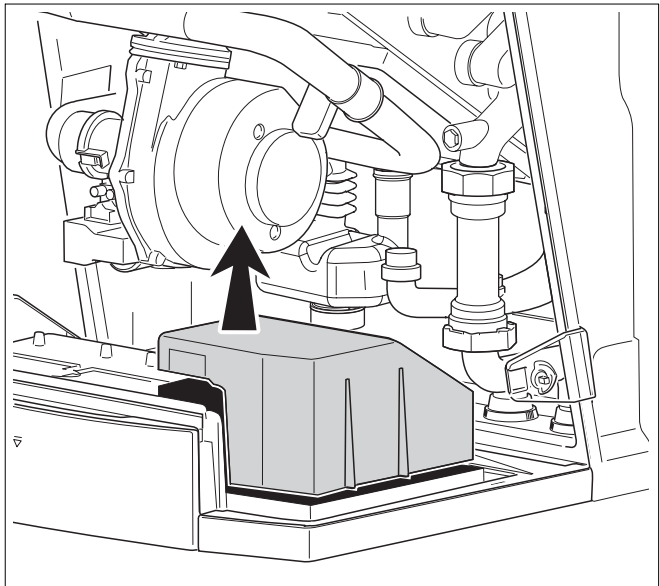

Fig. 22 Removing the cover from the external connection box
- Remove the cover of the external connection box (fig. 22).